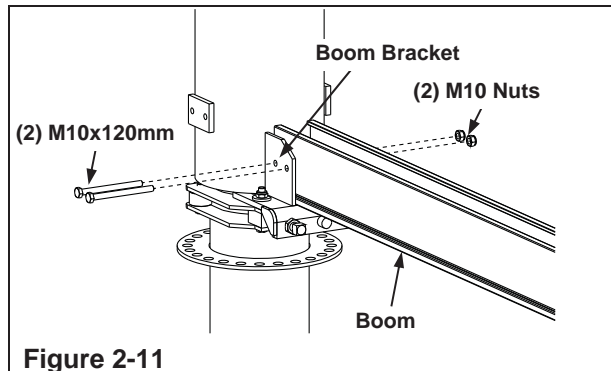

Figure 2-11
- Step 1. Remove the (2) M10x120mm HHCS bolts, washers, and nuts from boom bracket. See Figure 2-11.
- Step 2. Lift boom and align boom into boom bracket and secure the (2) M10x120mm HHCS bolts and nuts. **Tighten until bolt(s) are snug + ¼ turn.** Do not over tighten. See Figure 2-11.